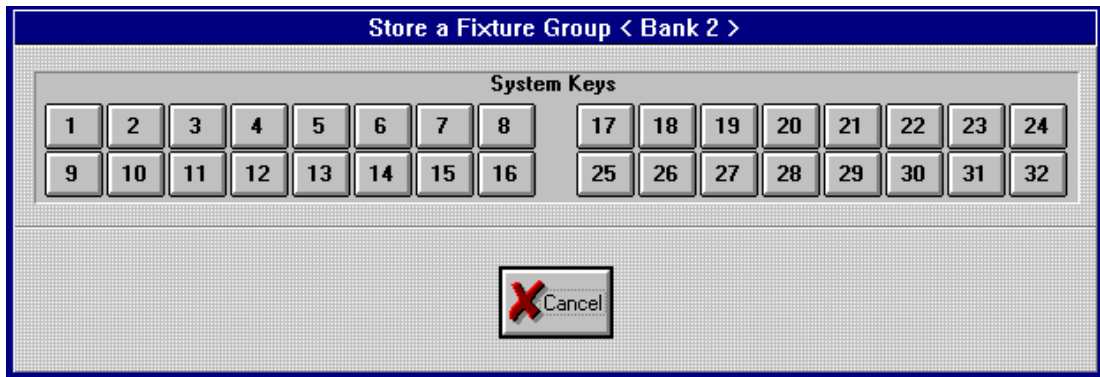

Figure 5.51. Store a Fixture Group Dialogue Box
5. Press the <STORE> key in the CONTROL group (Figure 5.46). This will bring up the **Store a Fixture Group** dialogue box (Figure 5.51).
6. Press any of the 32 System Keys (Figure 5.48) to store the Fixture Group on that key. The LEDs will illuminate to indicate if there is a Fixture Group already stored on that key. Alternately, use the mouse to click on the appropriate System Key in the **Store a Fixture Group** dialogue box (Figure 5.51).